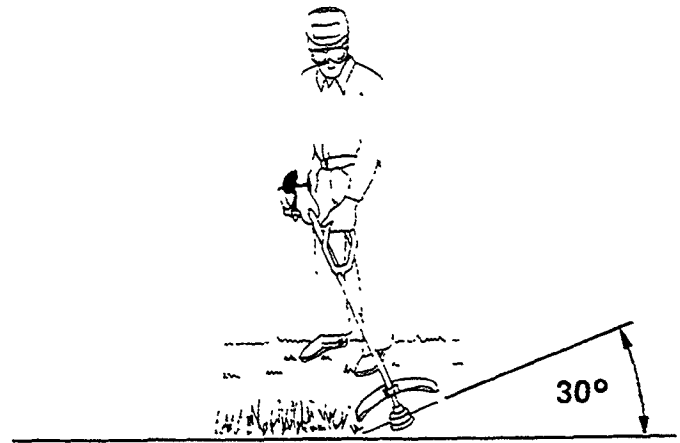

Figure 8
- Hold unit so the rotary head is at an approx. 30° angle to the ground (Figure 8).
- Cut from left to right with the engine at full throttle, so that clippings will be thrown away from you (Figure 8).